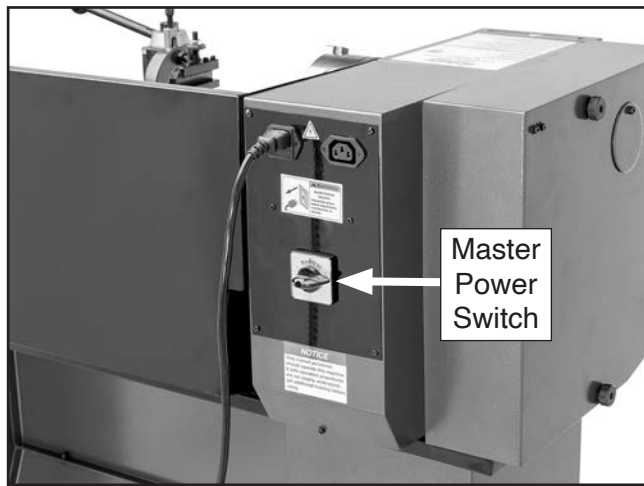

Figure 26. Location of master power switch.
3. Turn master power switch to Neutral (OFF) position (see **Figure 26**).